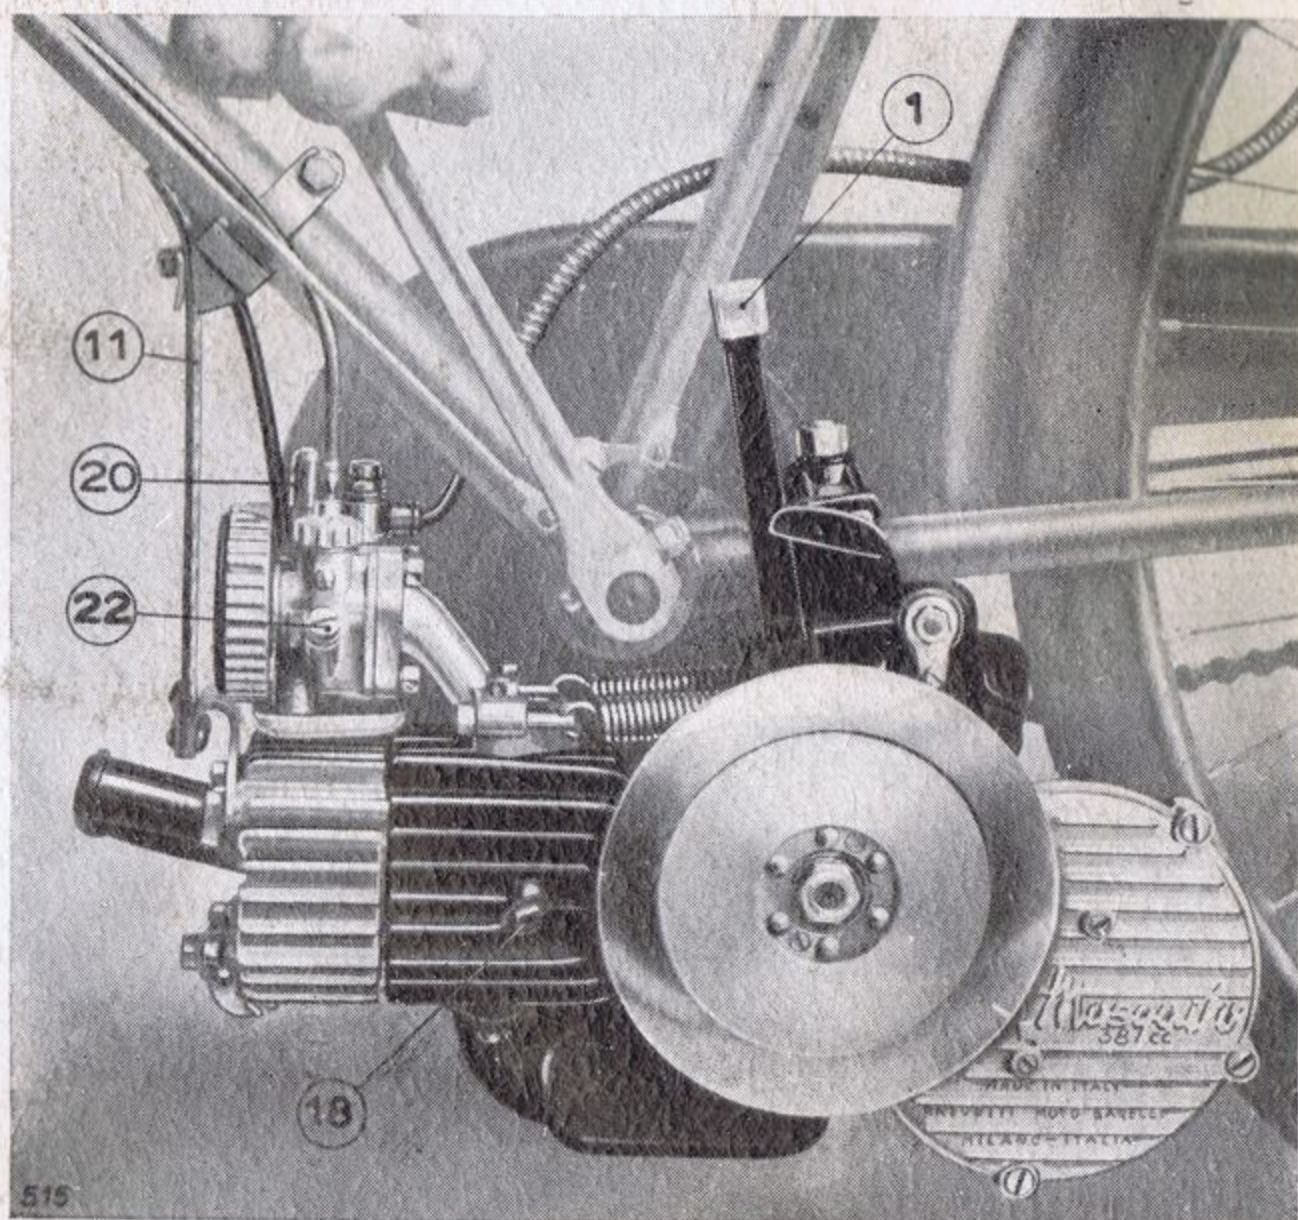

Fig. 5
B) Move the lever marked 1. to the engaged position (fig. 5).
- A) Open the petrol cock. Then if the engine is cold press up and down two or three times, the carburettor pump marked 20 (fig. 5). There is no need to do this if the engine is warm.
Starting pump 20 (fig. 5) which is used to facilitate the starting of the engine, is not to be confused with ordinary devices that help to raise the petrol level temporarily in the constant level tank of the carburettor. Also, the ordinary type of pump is not as efficient as this one, because one cannot usually tell if and how much the petrol level is being raised. Besides, there is a possibility of the fuel overflowing and spilling outside the container.
The plugs 18 (fig. 5) are pressed in and turned in a determined way. **They should not be removed or turned around, with a presumed view to tighten them thoroughly.** Dismantle and clean the tank and filter of the carburetor. Check, clean and re-set the points of the breaker removing the lid of the box on the opposite side of the fly-wheel. (Gap between points should be .016" - .4 mm).
3) The jet of the carburettor is obstructed. Undo the screw marked 22 fig. 5, and take out the jet. Suck the conical end of the jet to extract any dirt that may be in it, or push through the jet hole the specially supplied rod and clean the jet with it. Look in the jet against the light and make sure that the hole is clear. Press the pump marked 20 once or twice before re-assembling the jet. The fuel squirting from the jet chamber would drive out any sediment which might otherwise cause the same trouble at a later date.